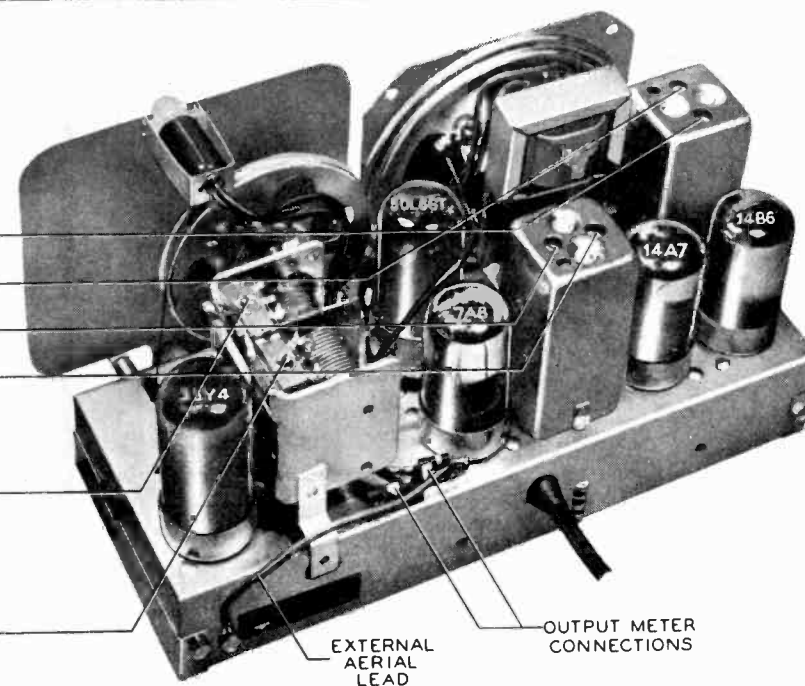

Figure 6. Chassis View, Showing Trimmer Locations
1. Carefully inspect both top and bottom of the chassis. Make sure that all tubes are secure in the proper sockets (see figure 6), and look for bad connections, burnt resistors, or other obvious sources of trouble.
OUTPUT METER—Connect to left (output) lug and center (chassis) lug of terminal panel, shown in figure 6.